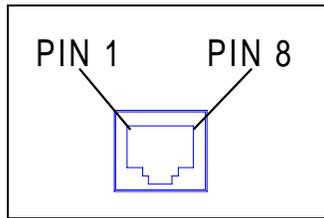

Figure 3-6. RJ-45 Tributary Socket Pin Numbering
- Step 5. Install tributary data signal cables on the IDU "TRIB" connectors. Use 75Ω BNC male connectors for 2x/4x, E3, and DS3 unbalanced systems, RJ-45 plugs for 2x/4x balanced systems, and DB25 connectors for 4x/8x and 16E1 systems. Refer to the Table 3-5 and Figure 3-6 for RJ-45 wiring details and Table 3-6 for DB25 wiring details: